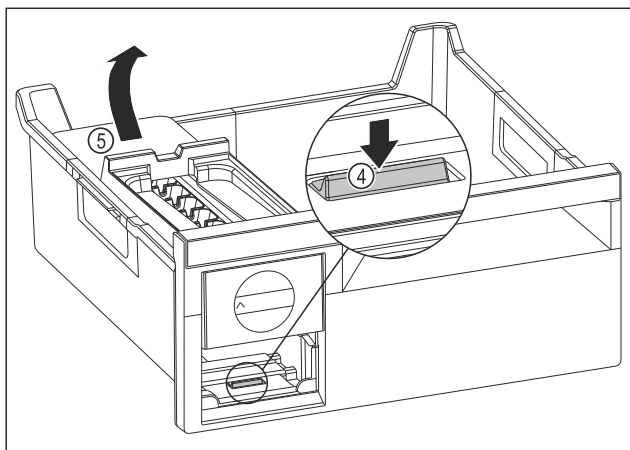

Fig. 136
- Removing the EasyTwist-Ice body: Use your finger to push the tab Fig. 136 (4) down and use your other hand to lift the EasyTwist-Ice body Fig. 136 (5) from behind at the same time.